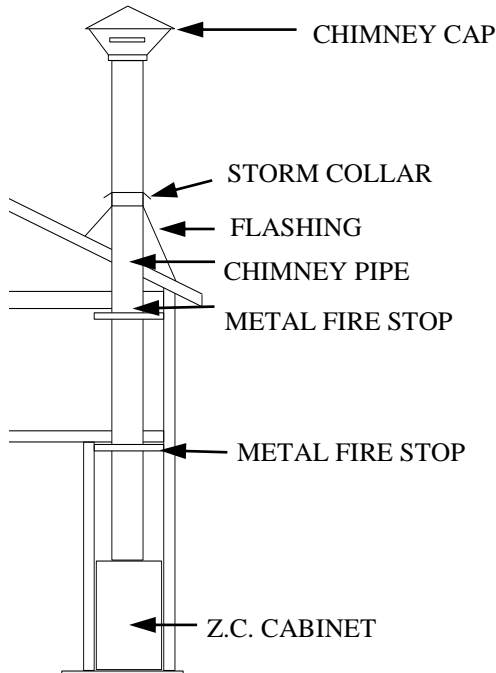
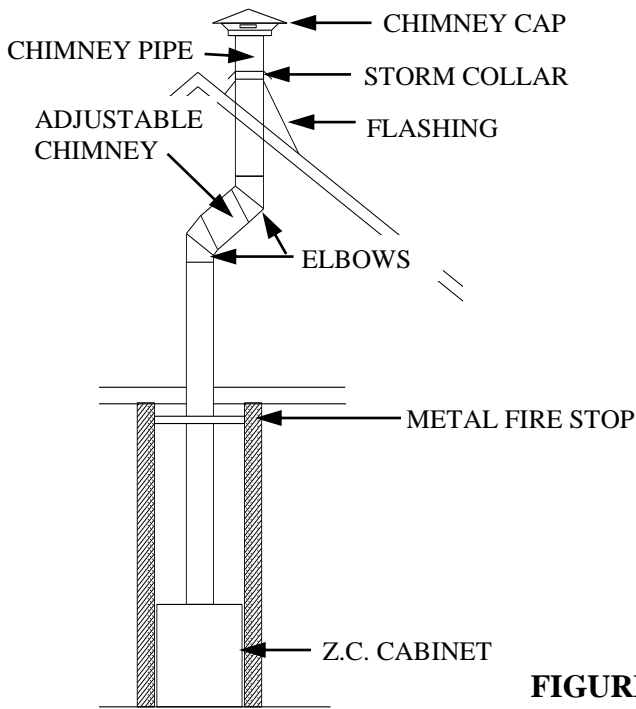

FIGURE 1 THROUGH CEILING
FIGURE 3 OFFSET TO CLEAR OBSTRUCTION
- A. Straight up through ceiling (See Page 4 Figures 1 and 2). This is a simple installation normally used when installing a Model 51ZC inside an existing room, and in some cases, in new construction. Refer to page 4 Figure 3 if an offset to clear an obstruction is needed.